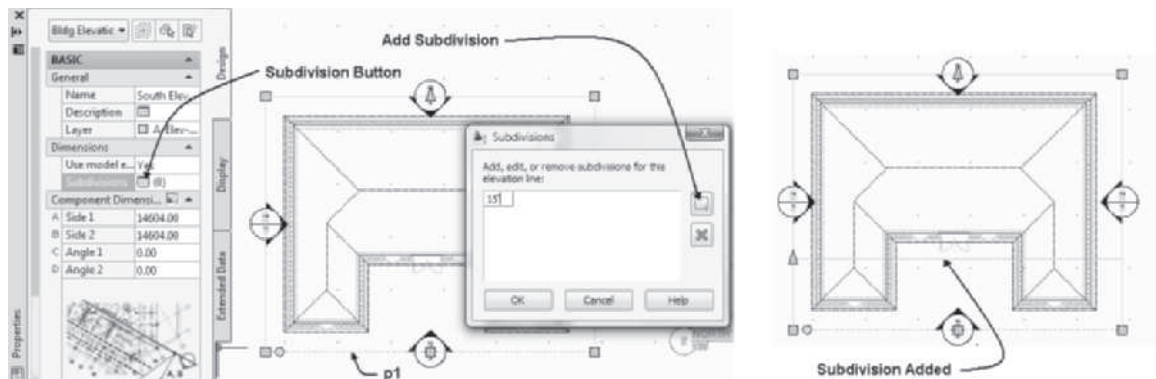

FIGURE 12.69 Creating a subdivision for the elevation
7. Select the building elevation line at **p1** as shown in Figure 12.69, right-click, and choose **Properties** to open the **Properties** palette. Select the **Design** tab and click the **Subdivisions** button (see Figure 12.69) to open the **Subdivisions** dialog box. Click the **Add Subdivision** button at the right, click twice on the default subdivision distance, and edit the distance to 15' [4000] for the building elevation line as shown in Figure 12.69. Click **OK** to dismiss the **Subdivisions** dialog box.